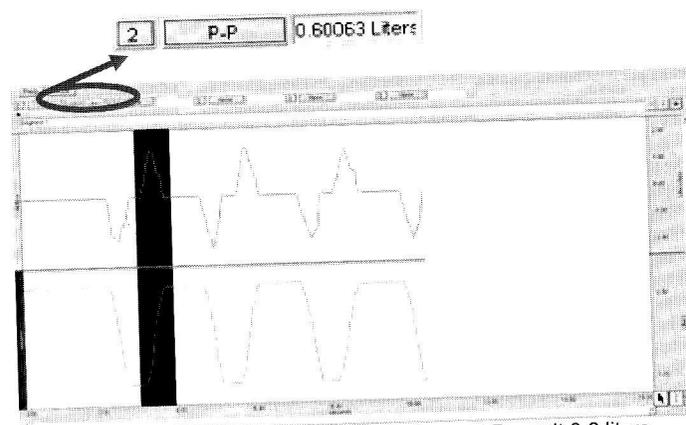

Figure 12.14 Calibration Validation shows P-P result 0.6 liters
- d) Measure P-P on CH2 Volume (Fig. 12.14) to confirm the result matches the syringe volume: